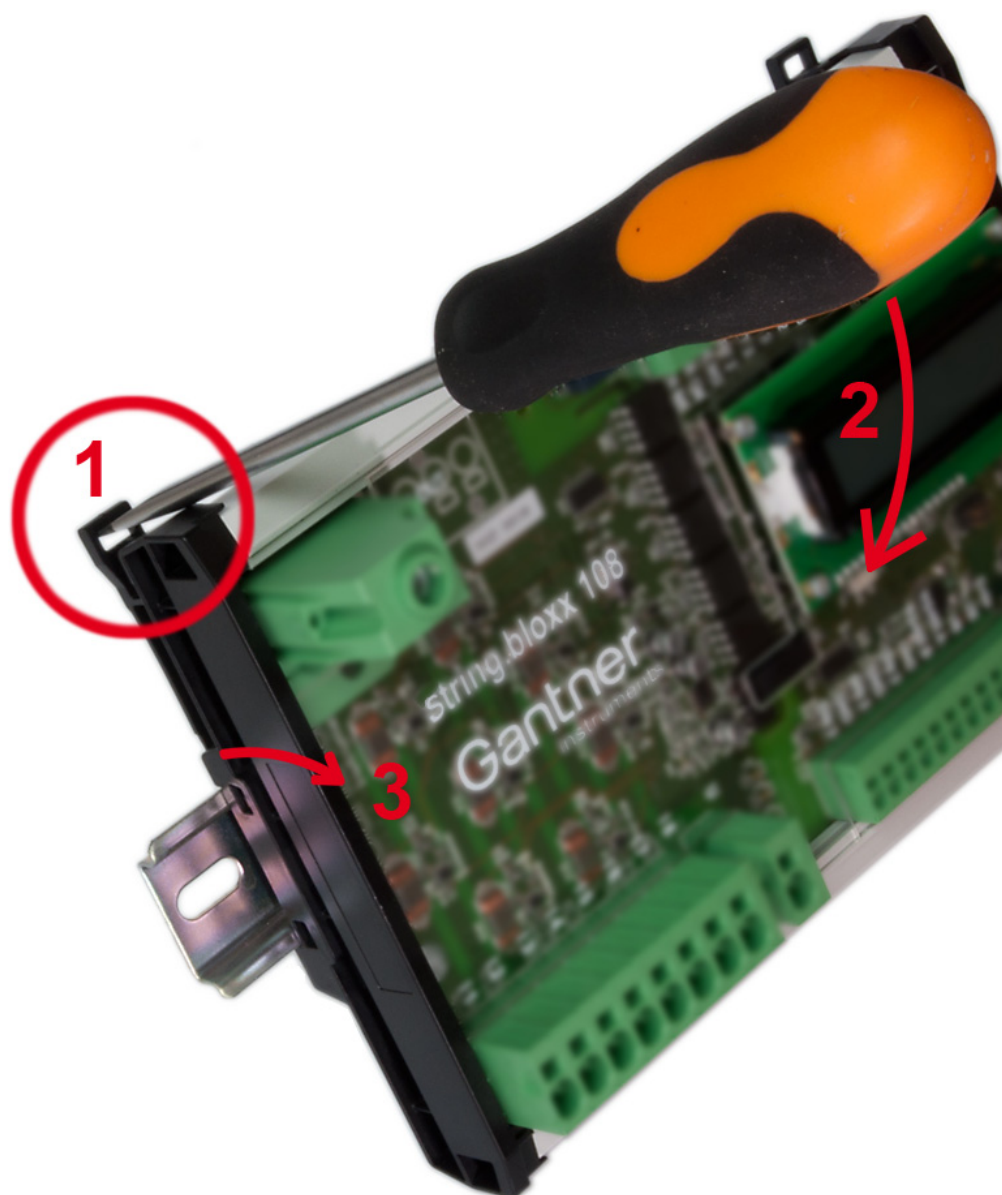

Fig. 3-3 Removing a module (example).
Insert a narrow screwdriver through one of the lugs at the top on the module (1 in Fig. 3-3). Then press the screwdriver in the direction of the module (2). The retaining mechanism then unlatches and you can slightly pull off the module from the mounting rail on this side (3). Hold the module with one hand so that it does not fall down and proceed similarly with the lug on the other side to completely remove the module from the mounting rail.